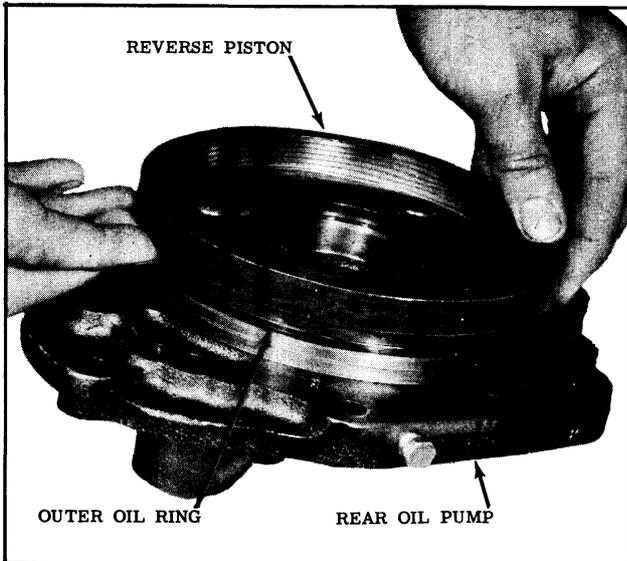

Fig. 3-107 Reverse Piston Removal
1. Lift the reverse piston from the front of the pump assembly. (See Fig. 3-107)